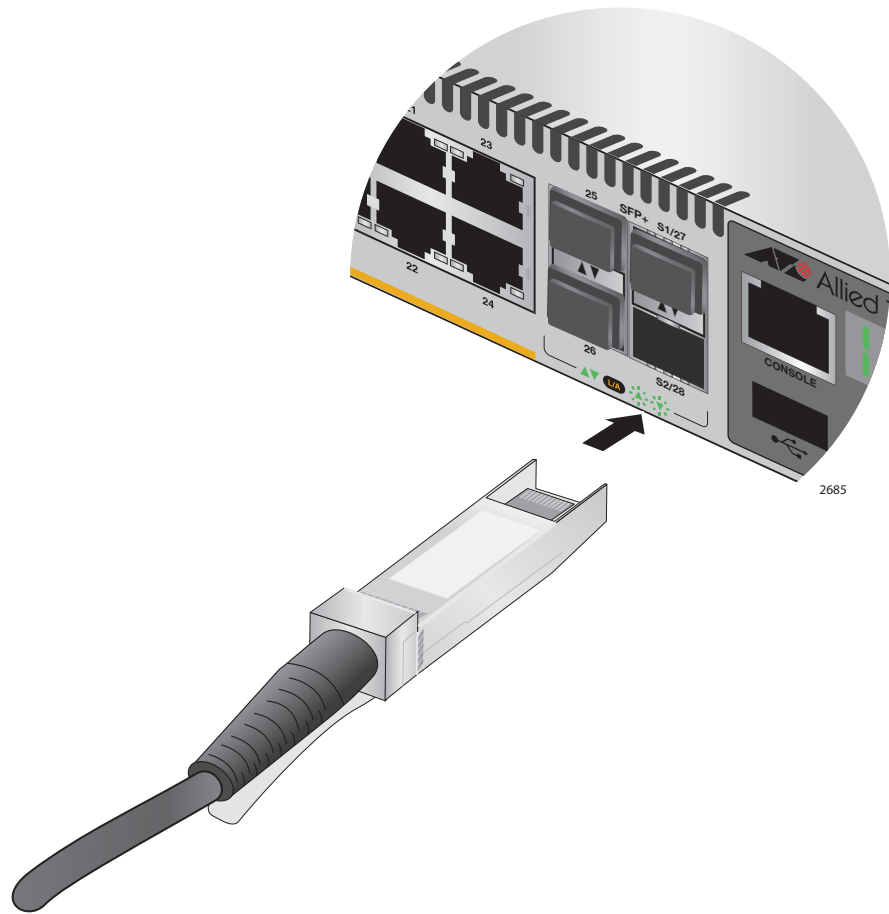

Figure 59. Installing a Direct Attach Cable in Slot S2
7. Position the transceiver with the release tab on the bottom and slide it into the slot until it clicks into place, as shown in Figure 59 on page 98.